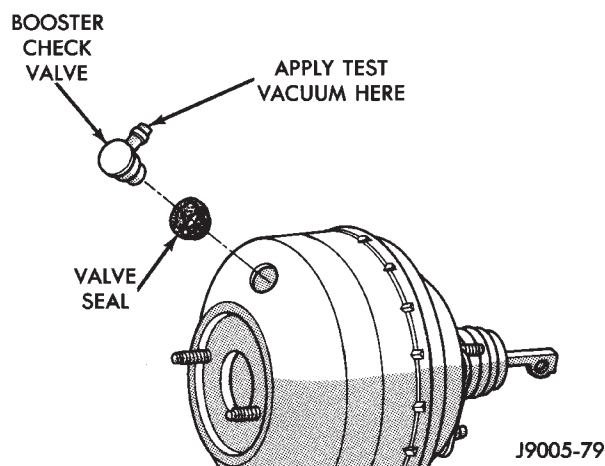

Fig. 1 Vacuum Check Valve And Seal Location
- (1) Disconnect vacuum hose from check valve.
- (2) Remove check valve and valve seal from booster (Fig. 1).
- (4) Apply 15-20 inches vacuum at large end of check valve (Fig. 1).
- (5) Vacuum should hold steady. If gauge on pump indicates any vacuum loss, valve is faulty and must be replaced.